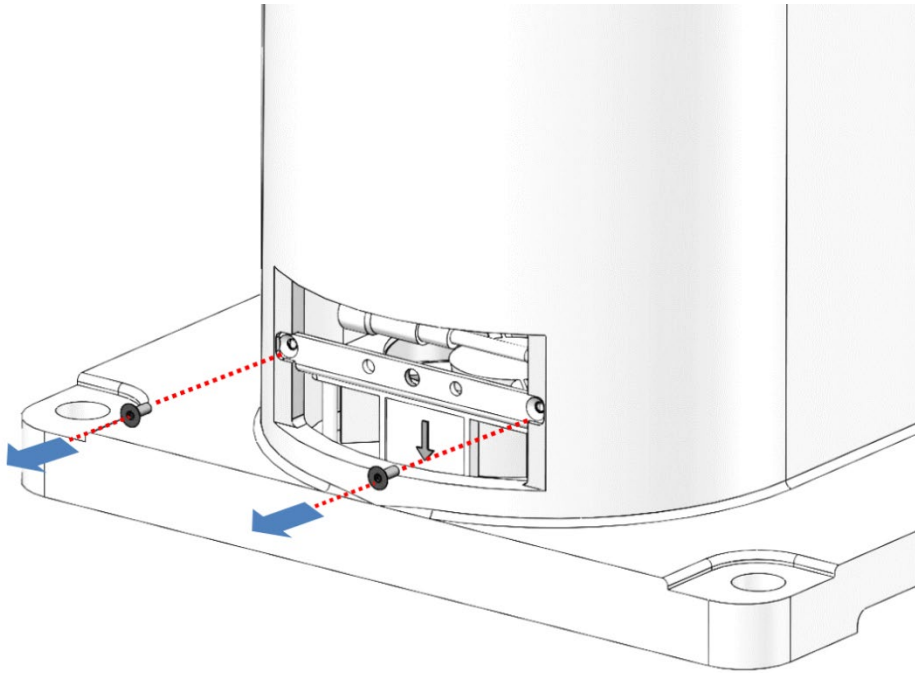

Figure 5-4 Remove the fan assembly
Step 3 Use 2 mm Allen wrench to remove the fastening screws from the fan assembly, as shown in Figure 5-4.